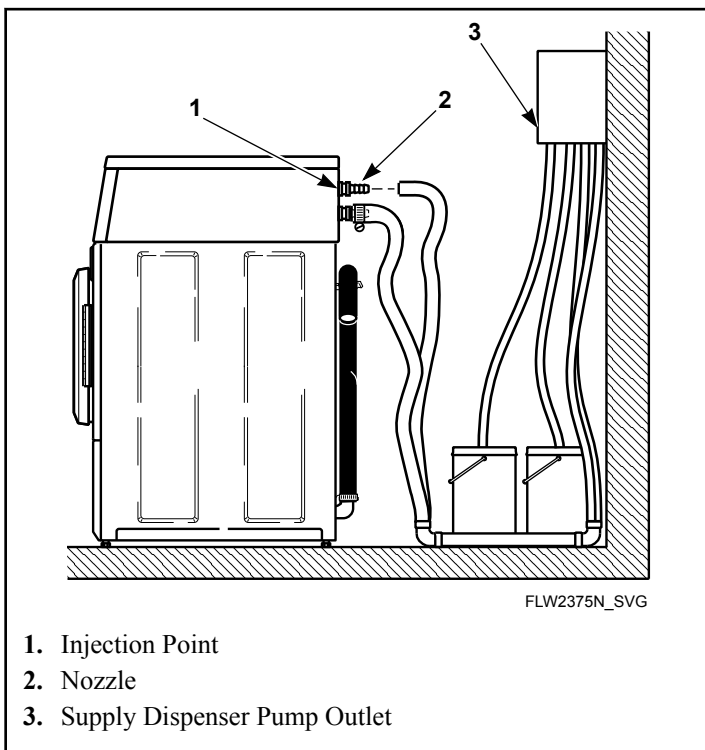

Figure 13
2. Attach nozzles to rear of machine. Connection point located on cabinet, above water mixing valve. Refer to *Figure 13*.
3. Connect supply hoses to nozzles and secure with hose clamps (obtain locally). Refer to *Figure 13*.